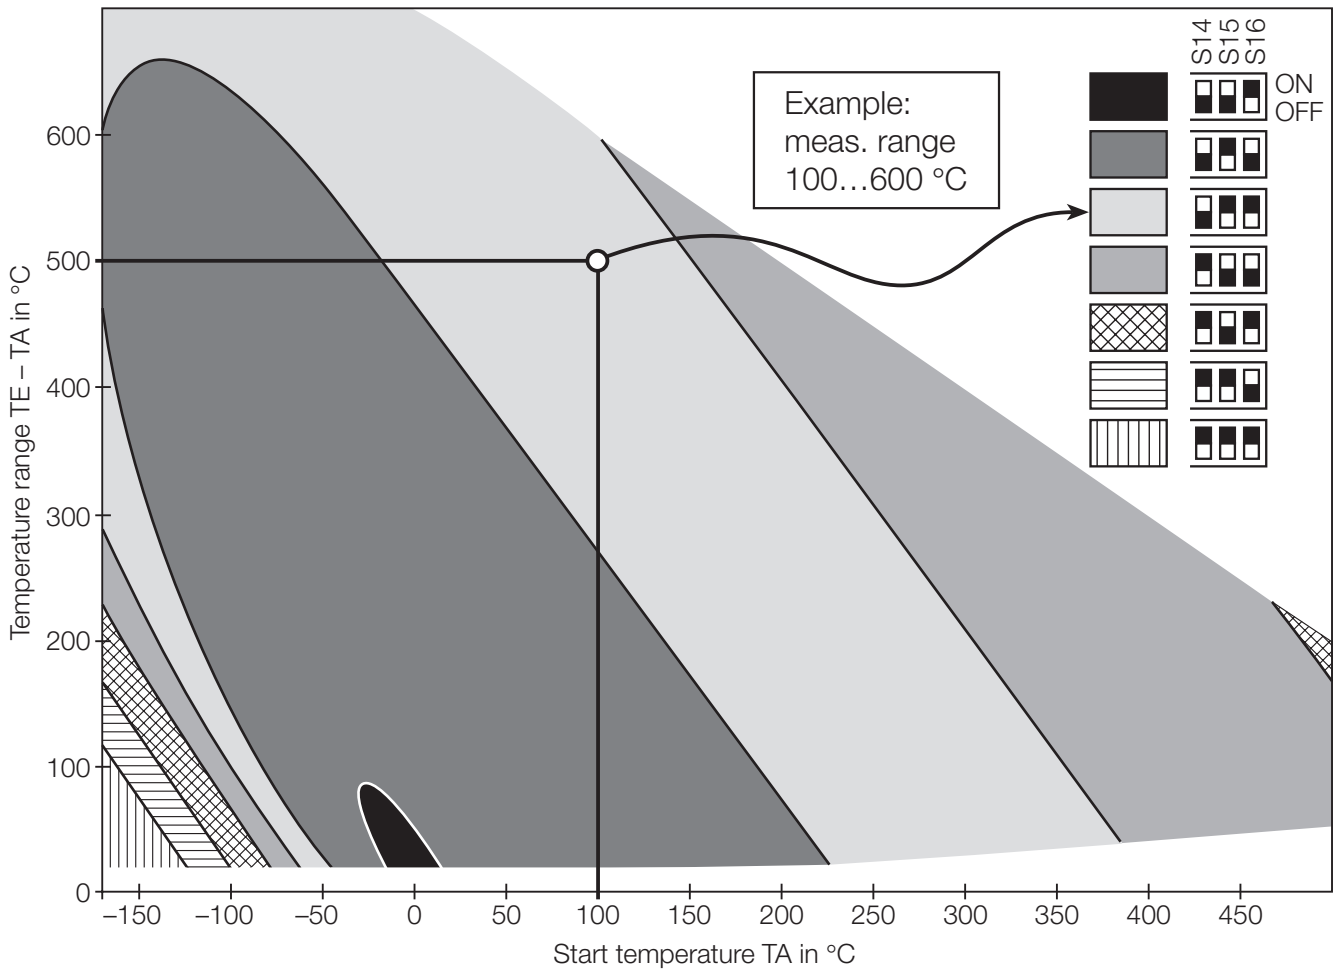

Fig. 9. Switch positions (S14...S16) for linearisation.
A switch combination has to be set to linearise the range that depends on the minimum value of the measuring range (TA) and the temperature range (TE – TA). Fig. 9 shows how the switch positions are determined for the example of a measuring range of 100...600 °C. The correct switch positions for this example are “OFF–ON–ON”.